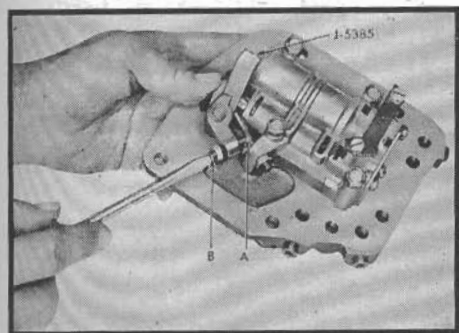

Fig. 49 Setting (2) of throttle valve inner lever adjustment. 1953-59
2. Place throttle valve inner lever positioning gauge, J-5385, Fig. 49, between the face of the detent valve and throttle valve inner lever. Hold in this position and turn adjusting screw "B" until it contacts threaded body of adjusting screw "A". Tighten lock nut securely.